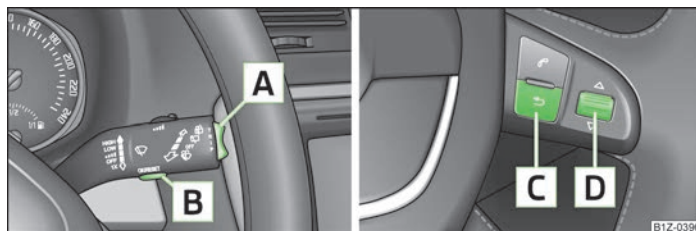

Fig. 7 Information display: Control elements on the windscreen wiper lever/ control elements on the multifunction steering wheel
- Activate the **Main menu** by pressing the rocker switch **A** » Fig. 7 for longer.
- Activate the **Main menu** by pressing and holding the button **C** » Fig. 7 for a short while.
- If warning messages are shown in the information display, these messages must be confirmed with the button **[B]** » Fig. 7 on the windscreen wiper lever or with the button **[D]** on the multifunction steering wheel to call up the main menu.